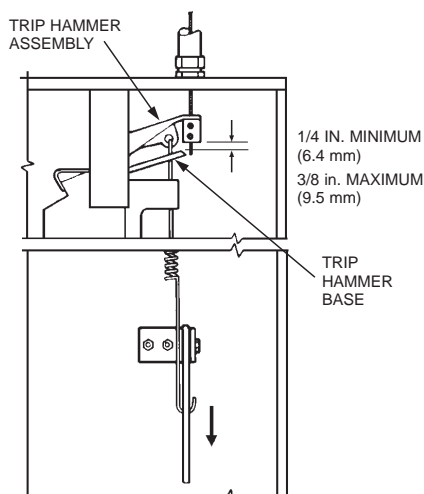

FIGURE 30
- Lower tension lever to “DOWN” position and inspect the base of wire rope clamping device to make certain that there is a minimum of 1/4 in. (6.4 mm) and a maximum of 3/8 in. (9.5 mm) clearance between the base of trip hammer assembly and cable lever assembly. See Figure 30. (If clearance is not between 1/4 in. (6.4 mm) or 3/8 in. (9.5 mm), raise tension lever, loosen set screws on locking clamp and repeat Steps 15 and 16.)